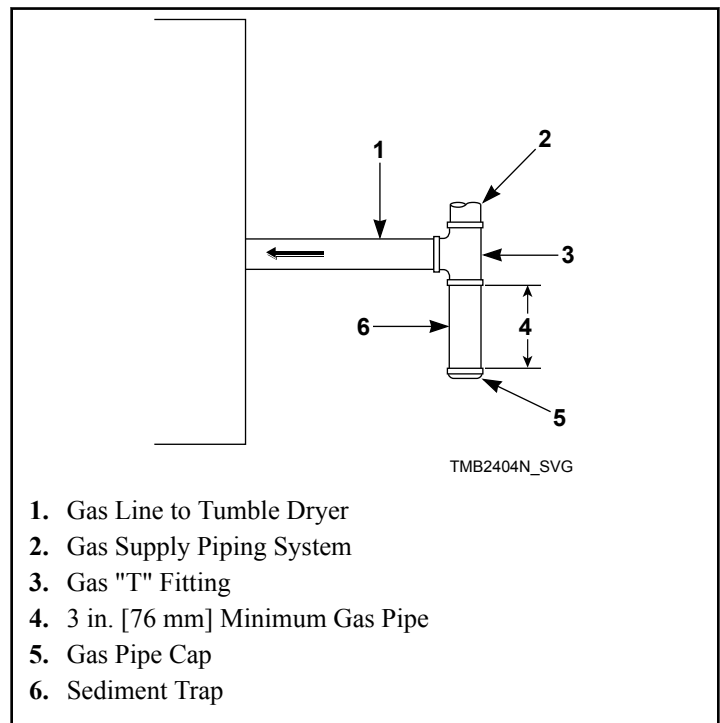

Figure 14
The following must be furnished and installed by the customer for the gas service line to each tumble dryer. Refer to *Figure 14*.
- Supply pressure taps (1/8 NPT minimum) (refer to *Figure 14*)